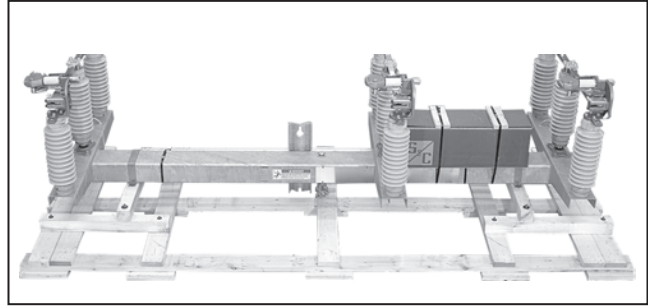

Figure 8. Remove the switch from its crate.
**STEP 5.** Remove the switch from its crate. See Figure 8. Protect the bearings at the base of each pole unit from contamination by dirt, mud, oil, etc. If necessary, use blocks to keep the bottom of the switch clear of the ground.